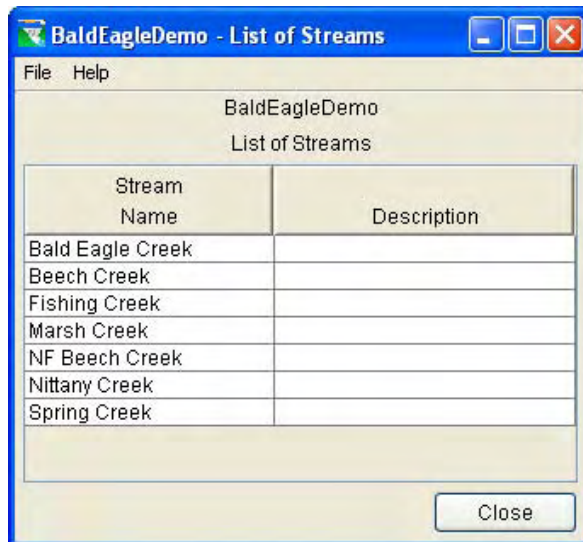

Figure 5.27 List of Streams in Stream Alignment
1. From the **Reports** menu, select **List of Streams** and a report similar to Figure 5.27 will appear.